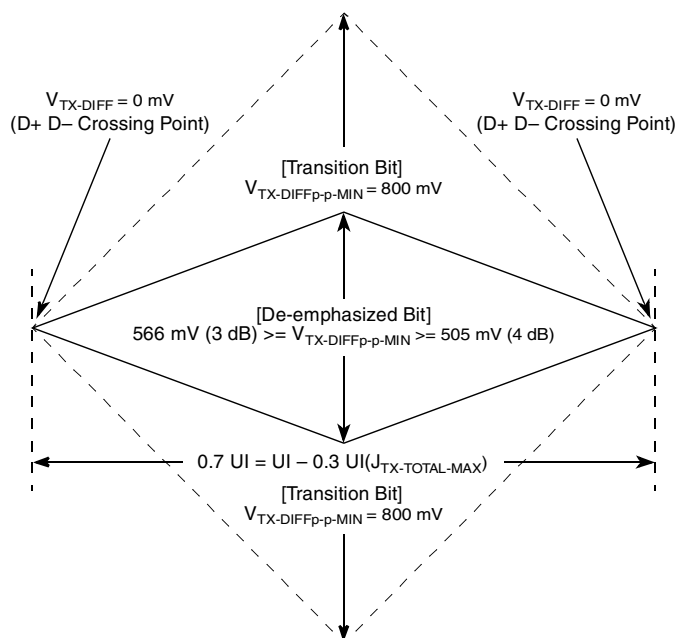
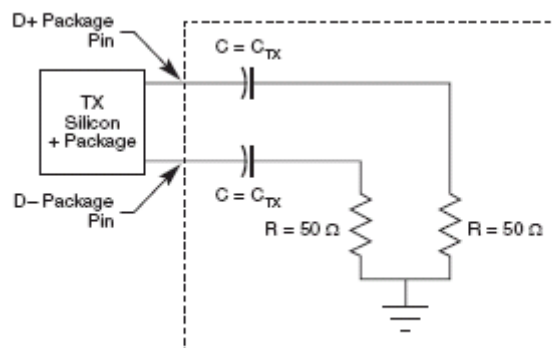

Figure 50. Minimum Transmitter Timing and Voltage Output Compliance Specifications
Figure 52. Compliance Test/Measurement Load
2. Specified at the measurement point into a timing and voltage compliance test load as shown in Figure 52 and measured over any 250 consecutive TX UIs. (Also refer to the transmitter compliance eye diagram shown in Figure 50.)
4. The transmitter input impedance shall result in a differential return loss greater than or equal to 12 dB and a common mode return loss greater than or equal to 6 dB over a frequency range of 50 MHz to 1.25 GHz. This input impedance requirement applies to all valid input levels. The reference impedance for return loss measurements is 50  $\Omega$  to ground for both the D+ and D- line (that is, as measured by a vector network analyzer with 50- $\Omega$  probes, see Figure 52). Note that the series capacitors,  $C_{\text{TX}}$ , is optional for the return loss measurement.
5. Measured between 20%–80% at transmitter package pins into a test load as shown in Figure 52 for both  $V_{\text{TX-D+}}$  and  $V_{\text{TX-D-}}$ .
The TX eye diagram in Figure 50 is specified using the passive compliance/test measurement load (see Figure 52) in place of any real PCI Express interconnect + RX component. There are two eye diagrams that must be met for the transmitter. Both diagrams must be aligned in time using the jitter median to locate the center of the eye diagram. The different eye diagrams differ in voltage depending on whether it is a transition bit or a de-emphasized bit. The exact reduced voltage level of the de-emphasized bit is always relative to the transition bit.
- Specified at the measurement point and measured over any 250 consecutive UIs. The test load in Figure 52 should be used as the RX device when taking measurements (also refer to the receiver compliance eye diagram shown in Figure 51). If the clocks to the RX and TX are not derived from the same reference clock, the TX UI recovered from 3500 consecutive UI must be used as a reference for the eye diagram.
- The receiver input impedance shall result in a differential return loss greater than or equal to 15 dB with the D+ line biased to 300 mV and the D– line biased to –300 mV and a common mode return loss greater than or equal to 6 dB (no bias required) over a frequency range of 50 MHz to 1.25 GHz. This input impedance requirement applies to all valid input levels. The reference impedance for return loss measurements for is 50  $\Omega$  to ground for both the D+ and D– line (that is, as measured by a vector network analyzer with 50- $\Omega$  probes, see Figure 52). Note that the series capacitors,  $C_{TX}$ , is optional for the return loss measurement.
The RX eye diagram in Figure 51 is specified using the passive compliance/test measurement load (see Figure 52) in place of any real PCI Express RX component. In general, the minimum receiver eye diagram measured with the compliance/test measurement load (see Figure 52) is larger than the minimum receiver eye diagram measured over a range of systems at the input receiver of any real PCI Express component. The degraded eye diagram at the input Receiver is due to traces internal to the package as well as silicon parasitic characteristics which cause the real PCI Express component to vary in impedance from the compliance/test measurement load. The input receiver eye diagram is implementation specific and is not specified. RX component designer should provide additional margin to adequately compensate for the degraded minimum Receiver eye diagram (shown in Figure 51) expected at the input receiver based on an adequate combination of system simulations and the return loss measured looking into the RX package
The reference impedance for return loss measurements is 50. to ground for both the D+ and D- line (that is, as measured by a Vector Network Analyzer with 50. probes—see Figure 52). Note that the series capacitors,  $C_{PEACCTX}$ , are optional for the return loss measurement.
The AC timing and voltage parameters must be verified at the measurement point, as specified within 0.2 inches of the package pins, into a test/measurement load shown in Figure 52.